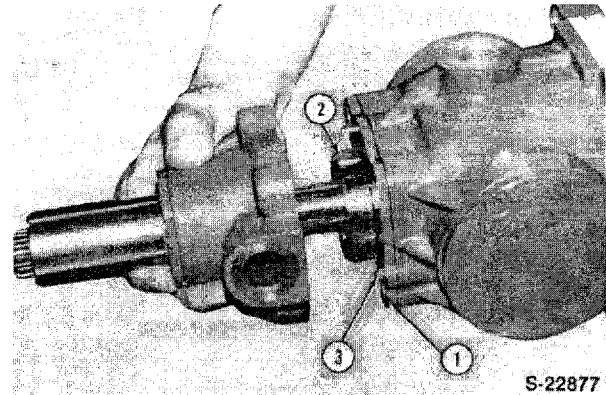

Figure 57
6. Install the wear plate (6) to the hydrostatic pump housing.
7. Install the drive key (8) and pump rotor assembly on the input shaft.
8. Press the seal (12), in place in the charge pump housing and install the throw-out bearing hub to the case. Tighten the retaining hub to 43.39 ± 4.39 lbs. ft. (58.80 ± 5.9 Nm).
9. Install the o-ring (7) to the charge pump housing.
10. Install the charge pump sub assembly to the case and tighten the retaining bolts to 13.0 ± 1.3 lbs. ft. (17.6 ± 1.7 Nm), Figure 57.